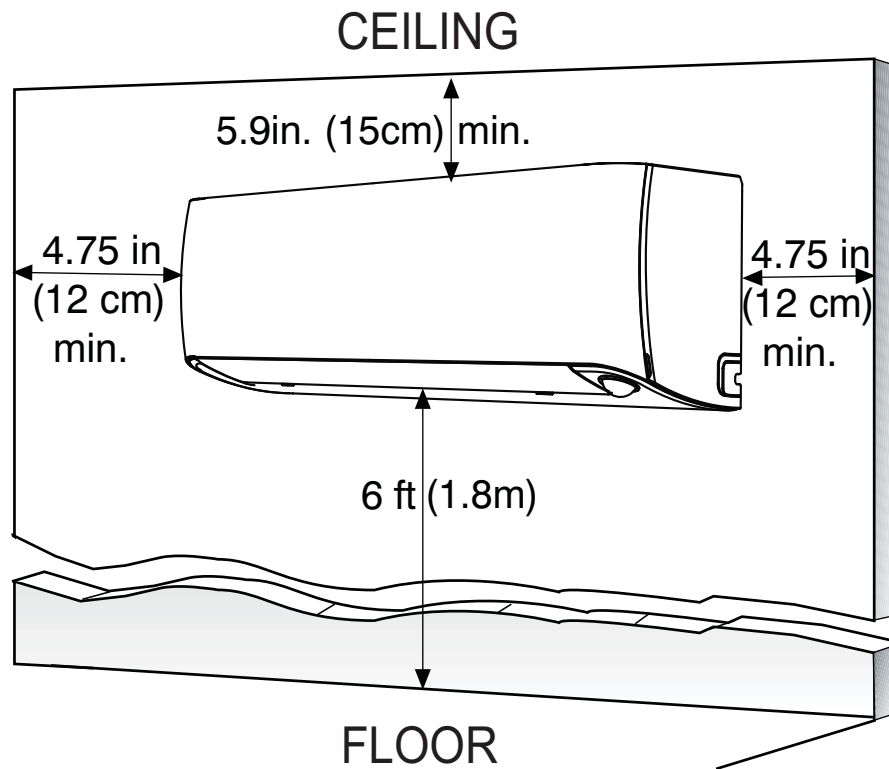

Fig. 6 —Unit Clearances
- A location which provides appropriate clearances (see Fig. 6).
2. Using the Stencil, determine the wall hole position. The mounting plate should be located horizontally and level on the wall. All minimum spacings shown in Fig. 6 should be maintained.